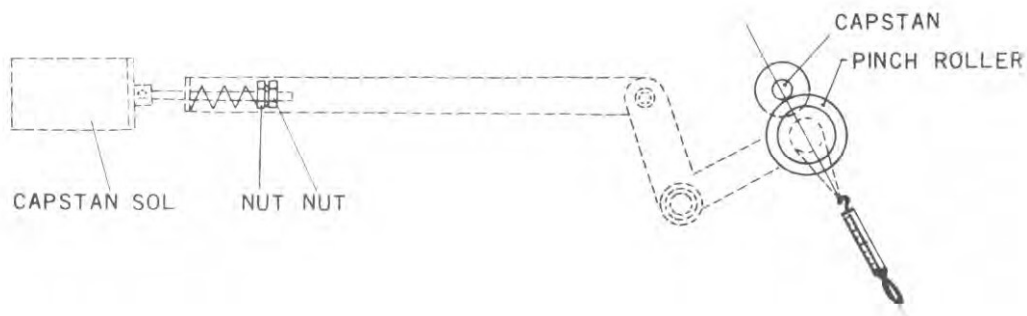

FIG. 3 PINCH ROLLER PRESSURE ADJUSTMENT
6. If adjustment is necessary, adjust the takeup nut (Figure 3) on the capstan solenoid shaft.